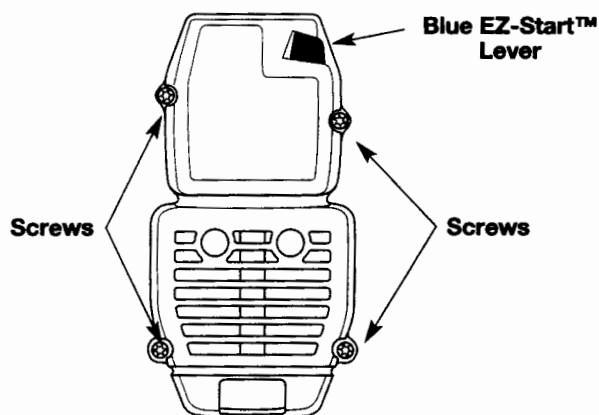

Fig. 36
1. Remove the four (4) screws securing the air filter/muffler cover (Fig. 36). Use a flat blade or T20 Torx bit screwdriver.
2. Insert the four (4) screws into the holes in the air filter/muffler cover (Fig. 36) and tighten. **Do not over tighten.**